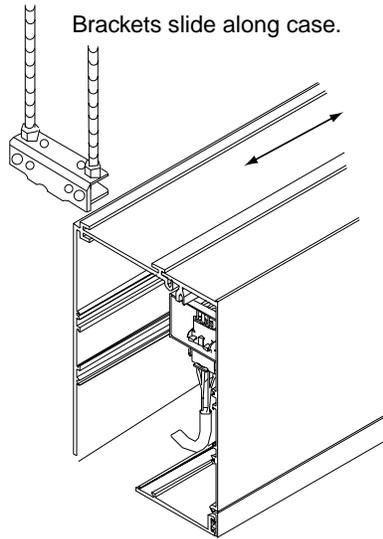

Figure 3
- ① Slide brackets into place in the grooves provided (see Fig. 3).
- ② Locate bracket as required for threaded rod, chain, or cable, and tighten set screws to hold bracket in place.